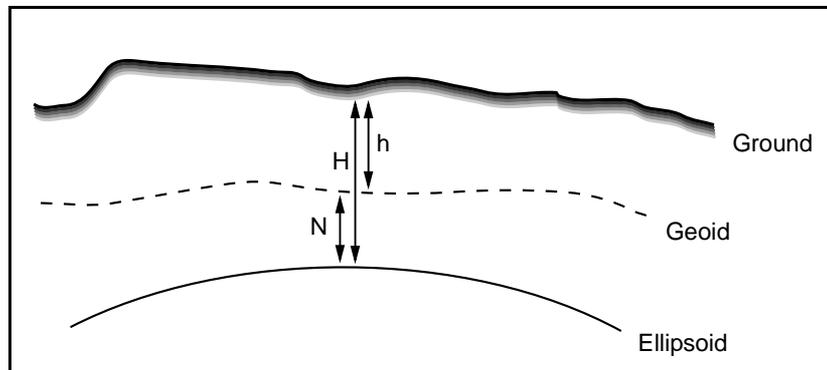

Figure 5.2 Geoid – ellipsoid separation
The geoid-ellipsoid separation value (N) is obtained from the geoid model and is subtracted from the ellipsoid height (H) for a particular point. The elevation (h) of the point above mean sea level (the geoid) is the result. This is illustrated in Figure 5.2.